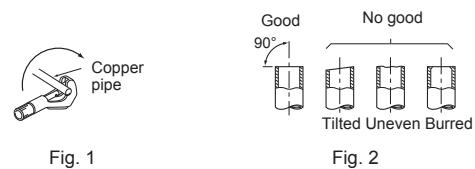

Fig. 1
- 1) Remove the electrical cover (1).
- 3) Attach the conduit pipe to the conduit plate with the lock nut. The indoor/outdoor unit connecting wire \odot appearing from the inside of conduit pipe should be less than 7/8 in. (23 mm). (Fig. 1)
- 1) Cut the copper pipe correctly with pipe cutter. (Fig. 1, 2)